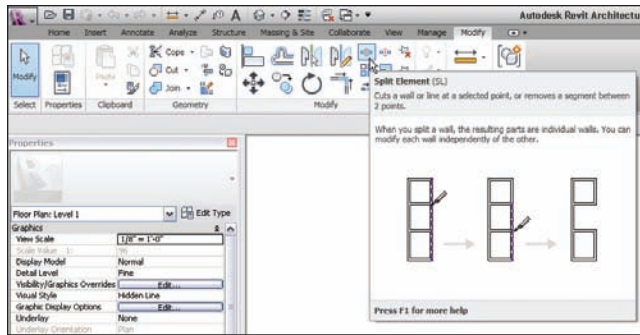

FIGURE 4.37 Select the Split Element button on the Modify | Walls > Edit Profile tab.
4. On the Modify | Walls > Edit Profile tab, click the Split Element button, as shown in Figure 4.37.